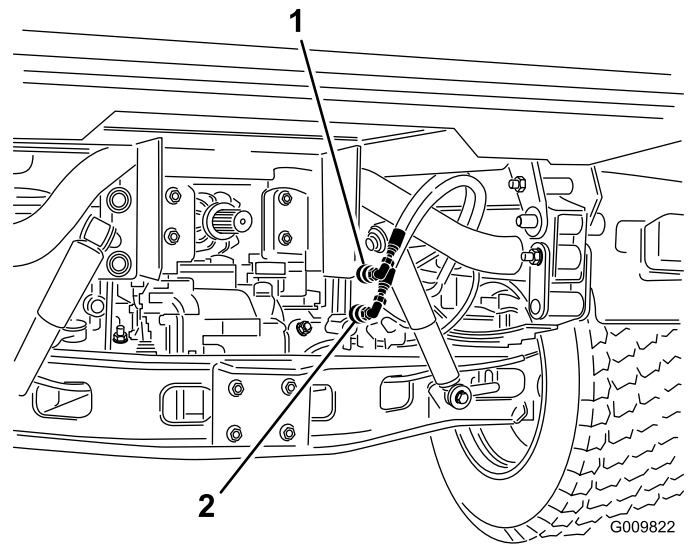

Figure 92
2. On both vehicles, disconnect the 2 quick coupler hoses from the hoses secured to the coupler bracket (Figure 92).